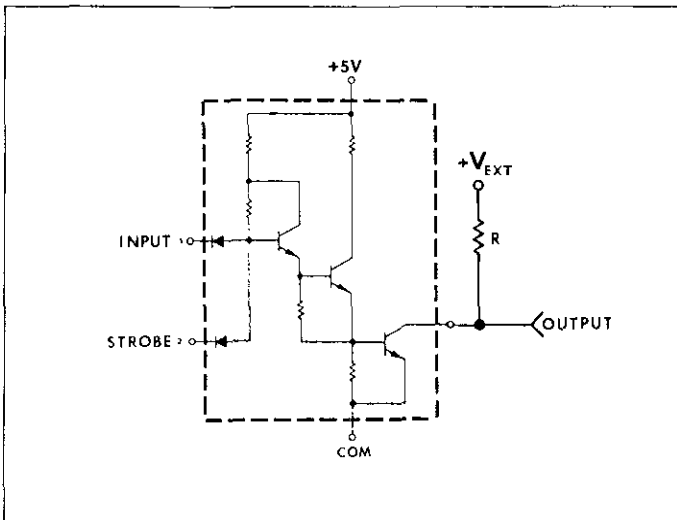

FIGURE 6. Output Buffer Stage.
d. Open Collector Output. (Refer to Figure 6). Interfacing the Model 171 to automatic data acquisition systems is made easy with the "open collector" output buffer stages of the 1712. The "open collector" gate of the Model 1712 switches impedance, rather than voltage, from high to low levels. This permits the user to determine his own voltage level difference between logic states "1" and "0" as determined by the "reading" logic gate of the digital reading device (printer, computer, etc.). Any logic voltage level up to +12 volts ($+V_{ext}$) may be applied to the collector of each output transistor of the Model 1712. Logic state "1" is defined as an open transistor collector to ground with less than 100 microamperes leakage; +12 volts maximum allowable applied voltage. Logic state "0" is defined as a transistor switch closure to ground with less than 0.5 volt saturation voltage at +35 milliamperes sink current. The "open collector" feature of the Model 1712 Digital Output is compatible with a wide variety of logic types including TTL, DTL, and RTL. In the case of RTL and some other logic types, a pull-up resistor (R) is needed to define logic state "1". For more information on digital interfacing, contact your Keithley Representative or the factory for your copy of our Product Notes "Interfacing Digital Instruments". It encompasses not only the basics of digital coding, but also the types of logic in use today by most digital equipment manufacturers including Keithley.